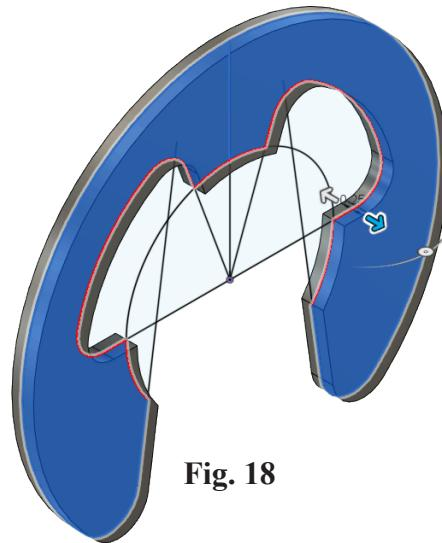

Fig. 18
Step 2. Click **Center Diameter Circle** (C) in toolbar.
Step 3. Sketch **three circles** at the Origin , Fig. 18.
Step 4. Click **Dimension** (D) on the toolbar.